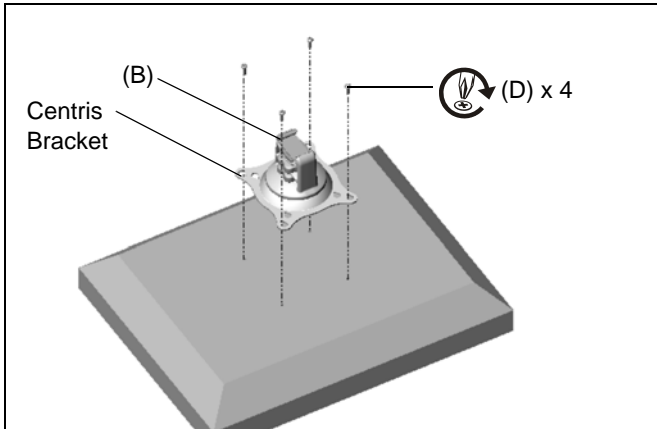

Figure 3
3. Using Phillips screwdriver, install four M4 x 10 screws (D) through the mounting holes in Centris bracket and into the display. (See Figure 3)
4. Tighten all four screws (D). Do not overtighten!